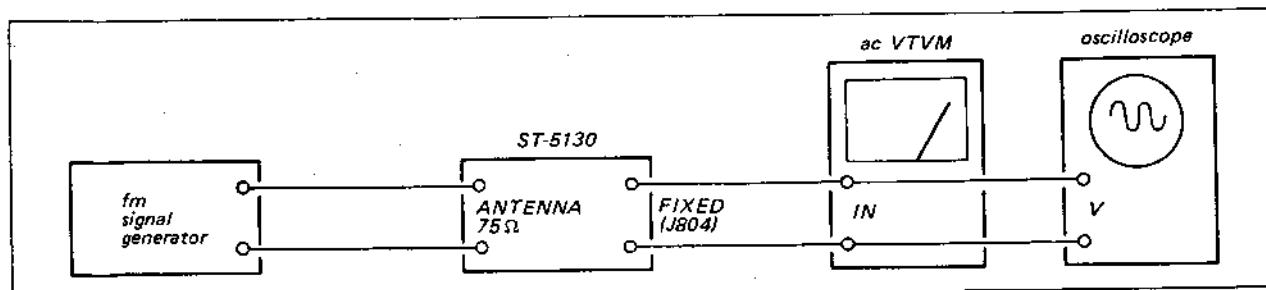

Fig. 3-2. I-f, muting and front-end alignment test setup
1. With the equipment connected as shown in Fig. 3-2, set the SSG's controls as follows:
1. With the equipment connected as shown in Fig. 3-2, set the tuner's controls as follows:
1. Connect the equipment as shown in Fig. 3-2.